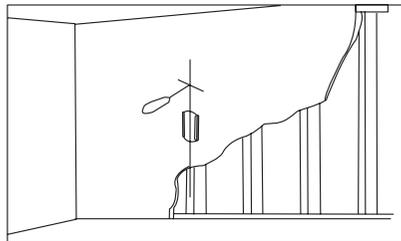

Fig 2b
Using a awl or nail to make where the nails are located, as shown as fig.2b. Pre-drill these holes with a 5mm drill bit to at least 40mm in deep hole. Please make sure these holes are level and located at center. Use wall mount as a template to mark the location of other three holes and drill the same holes. Fix the wall mount to the wall with 4 long bolts(H) and washers(J).